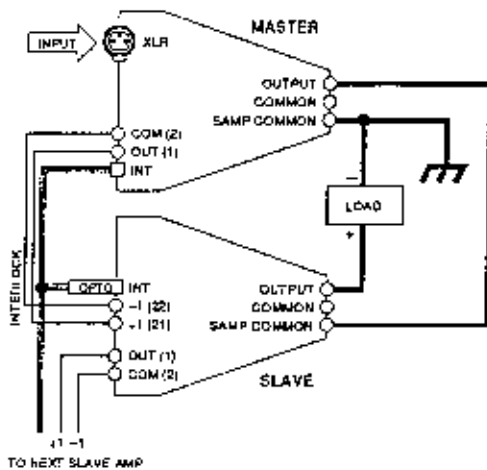

Fig. 3.20 Interlock Series System Wiring
IMPORTANT: To protect each amplifier from damage, the interlock system for each unit above ground **MUST** be protected with an optical isolator. These optical isolators are available from Crown. (Contact the Crown Technical Support Department for further information.) Figure 3.20 shows the basic system connections:
4. Make an interlock cable as shown in Figure 3.20 and connect it to the 37-pin System Interlock connector of each amplifier. Be sure to use optical isolators (available from Crown) for protection.